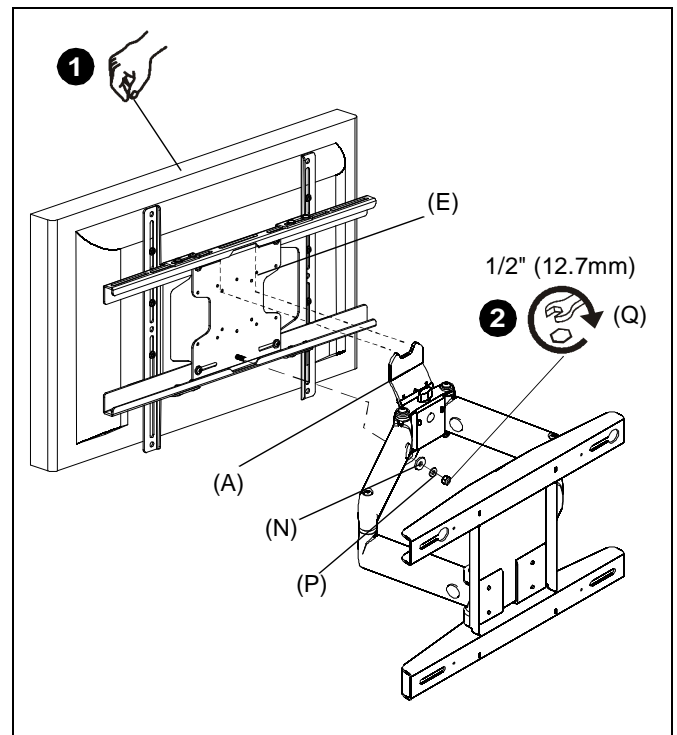

Figure 11
- Align slots on upper portion of faceplate (E) with tabs on upper portion of arm assembly (A). Lower display into place, pivoting threaded stud on faceplate (E) into slot on arm assembly (A). (See Figure 11)
- Install spacer (N), washer (P), and nut (Q) onto threaded stud. Tighten securely. (See Figure 11)